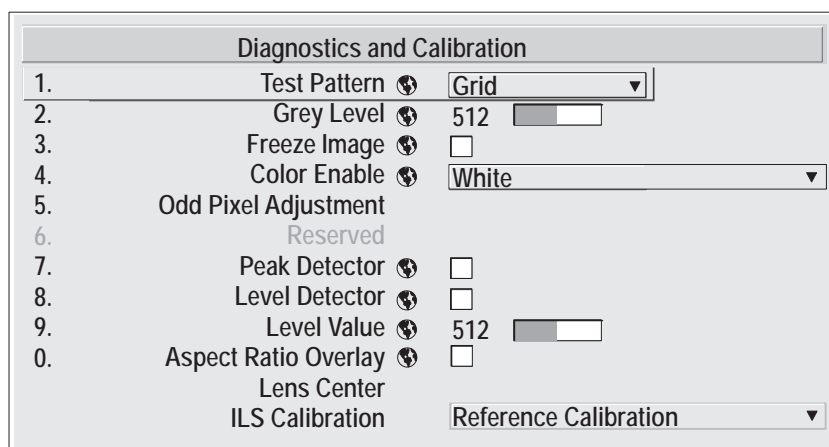

Figure 2-24 Diagnostic and Calibration Menu
7. Calibrate the lens. See Figure 2-24. For more information, refer to Section 3 Operation.